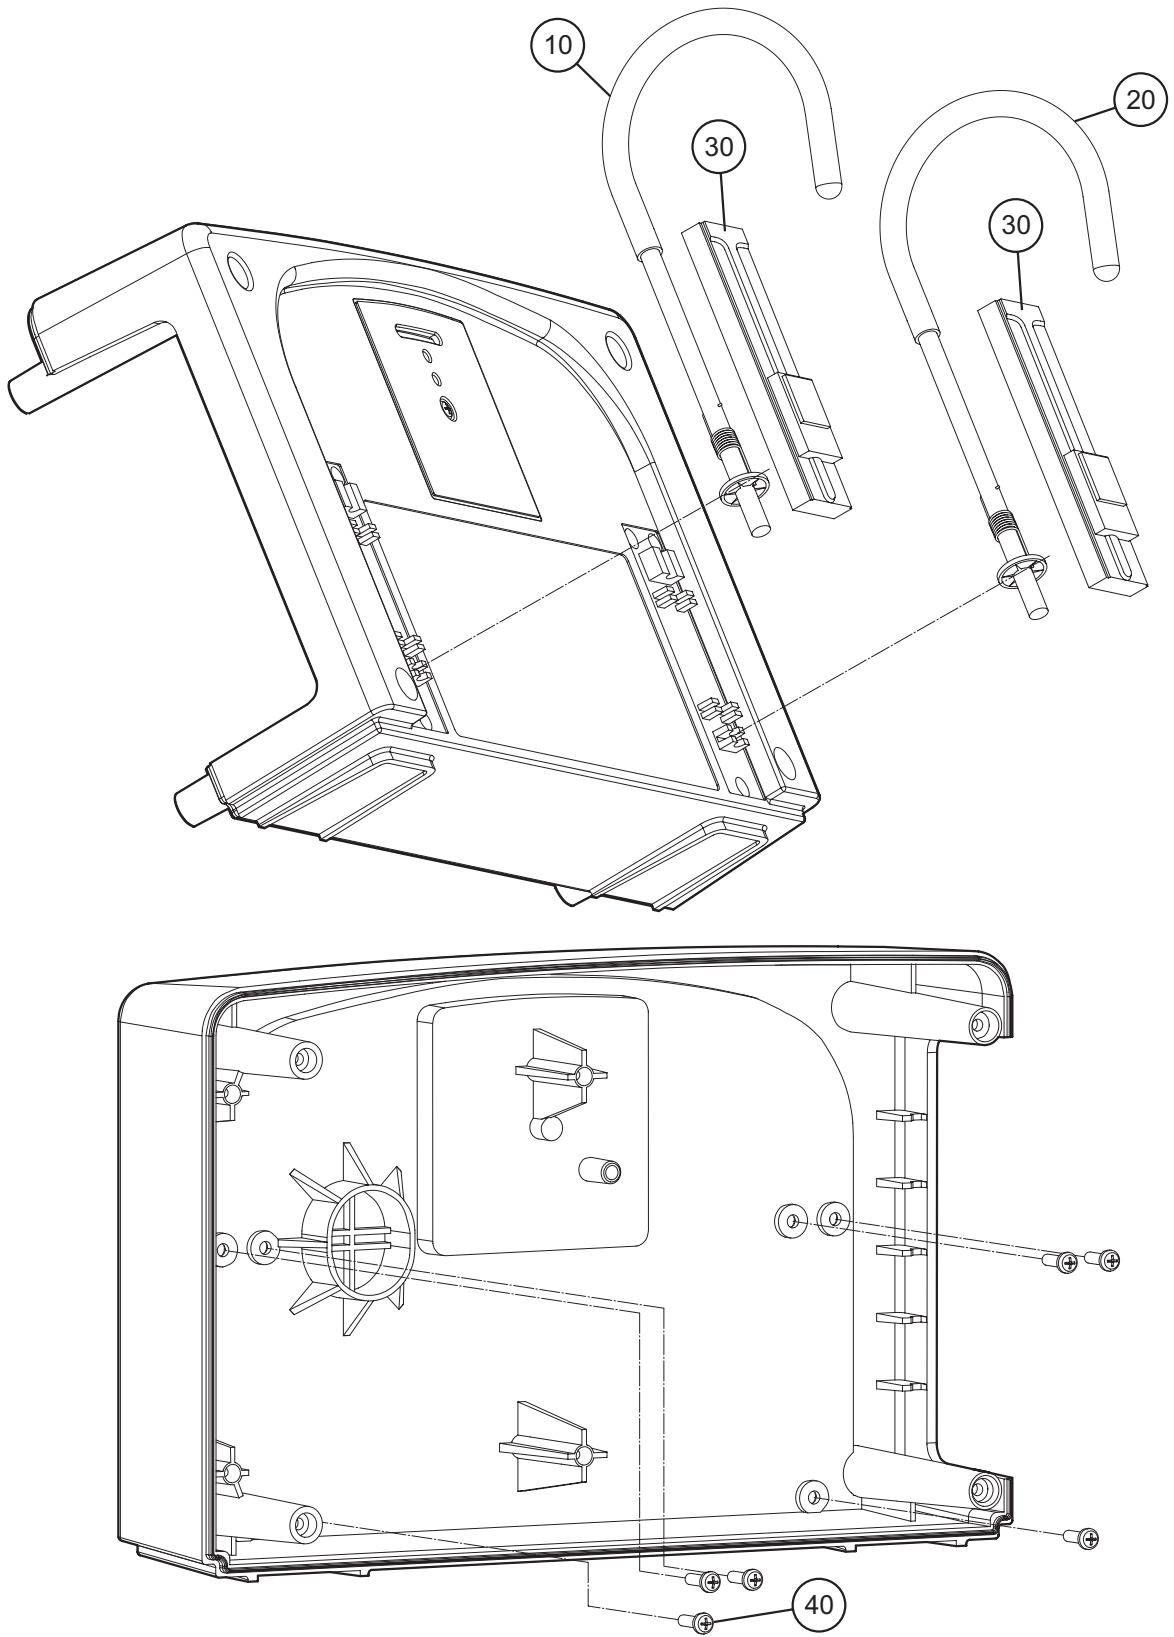

Figure 5 - Replacing the Old Style Bed Hooks
- 10.3 Hold a hook plate (Fig 5, Item 30) in position and remove the three securing screws (Fig 5, Item 40) from the inside of the rear case.
- 10.4 Carefully remove the hook plate and its bed hook (Fig 5, Item 10 or 20).